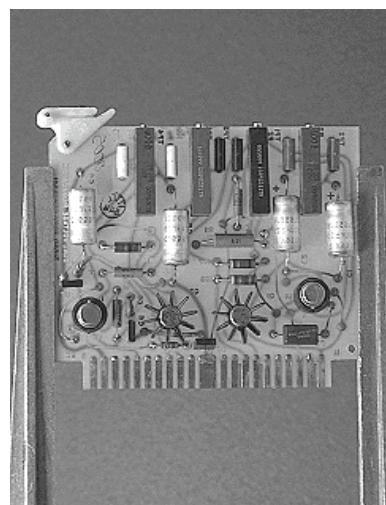
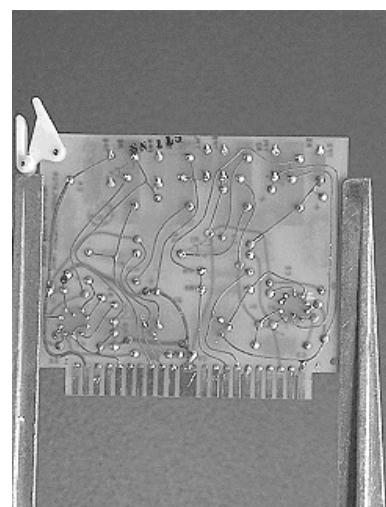

Figure 1-37.—Printed circuit board (pcb).
Figure 1-38.—Printed circuit board (pcb).
**LEVEL I.**—This level is normally associated with small modules or submodules that are attached to circuit cards or mother boards. The analog-to-digital (A/D) converter module is a device that converts a signal that is a function of a continuous variable (like a sine wave) into a representative number sequence in digital form. The A/D converter in figure 1-37 is a typical Level I component. At this level of
**LEVEL II.**—Level II packaging is composed of large printed circuit boards and/or cards (mother boards). Typical units of this level are shown in figures 1-37 and 1-38. In figure 1-38 the card measures 15 x 5.25 inches. The large dual inline packages (DIPs) are 2.25 inches x 0.75 inch. Other DIPs on the pcb are much smaller. Interconnections are shown between DIPs. You should also be able to locate a few discrete components. Repair consists of removing the faulty DIP or discrete component from the pcb and replacing it with a new part. Then the pcb is placed back into service. The removed part may be a level 0 or I part and would be handled as described in those sections. In some cases, the entire pcb should be replaced.
Printed circuit boards were discussed earlier in topic 1. You should recall that a conventional pcb consists of glass-epoxy insulating base on which the interconnecting pattern has been etched. The board may be single- or double-sided, depending on the number of components mounted on it. Figures 1-37 and 1-38 are examples of conventional printed circuit boards.